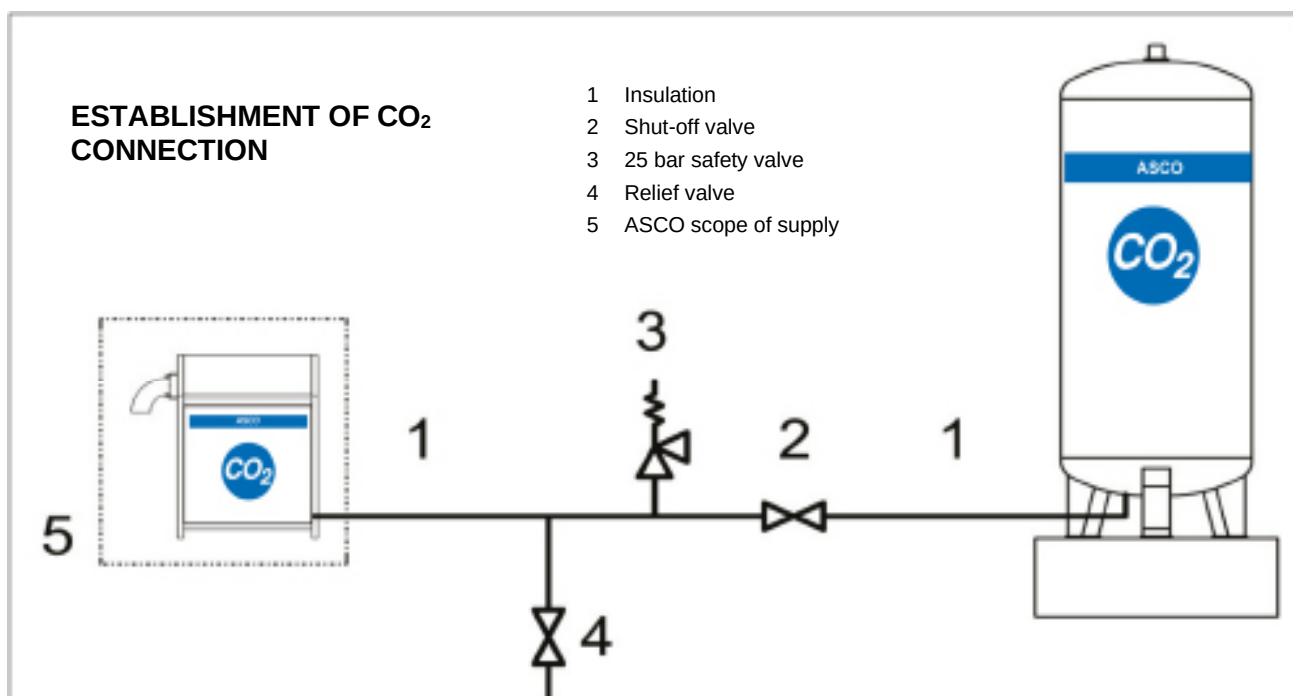

Fig. 13
Hazard due to pressure Stop CO₂ supply. ▪ Close the shut-off device (ball valve) at the CO₂ supply. ▪ Reduce the pressure by starting the machine. ▪ Reduce the residual pressure through the relief valve in the supply line (fig. 13, item 4).